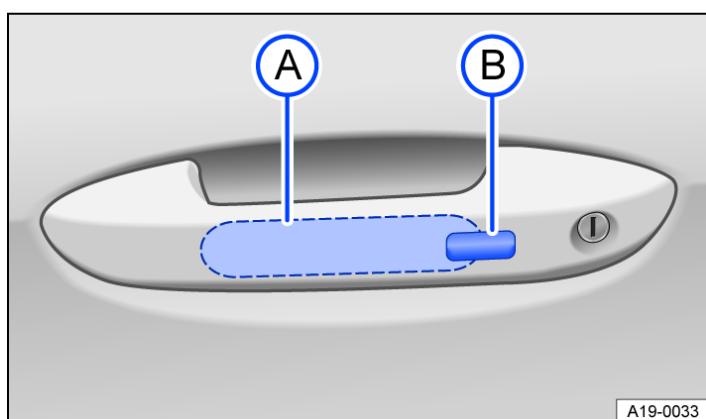

Fig. 2 In the door handle: sensors.
1. Touch the sensor → Fig. 2 (A) on the inside of the door handle.
2. Touch the sensor → Fig. 2  on the outside of the door handle.